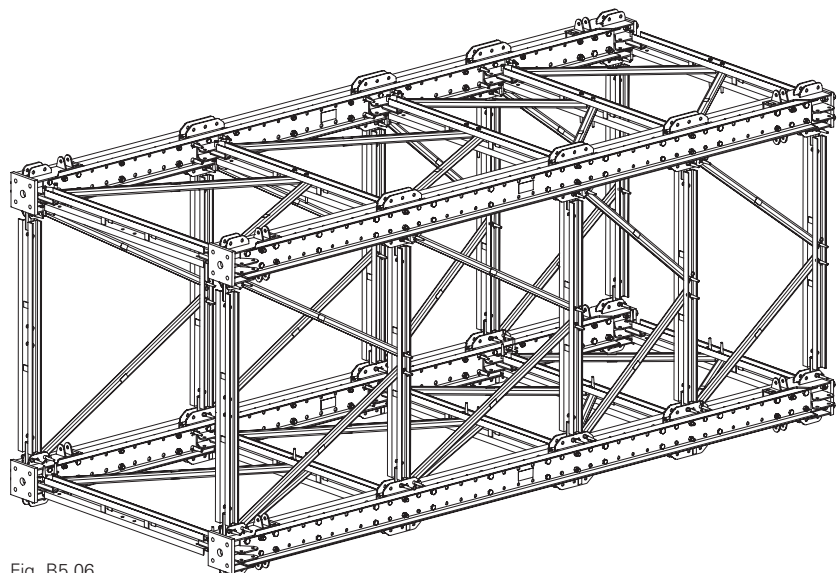

Fig. B5.06
1. Install the required diagonal struts VST. (Fig. B5.06) (see Section B3, Module assembly)